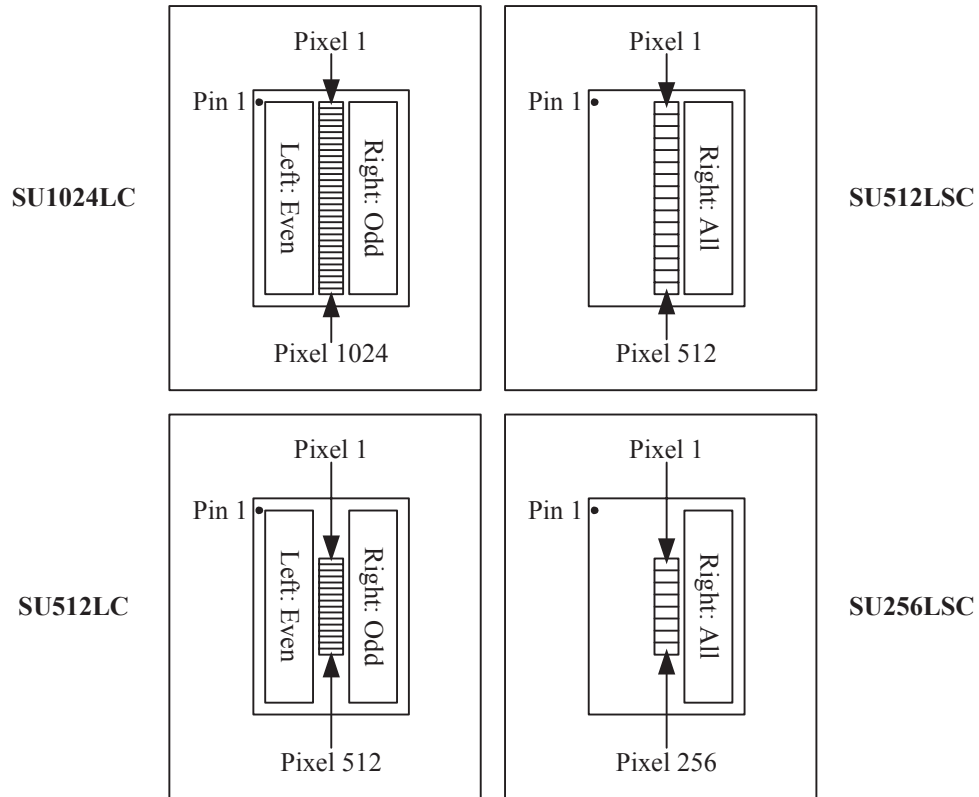

Figure 4. Readout configurations, top view.
- See Figure 4 for the readout configurations. For the two-sided arrays, odd pixels are connected to the outputs on the right side, and even pixels are connected to the outputs on the left side. For single-sided arrays, all the pixels output on the right side.